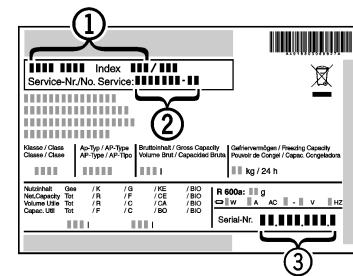

Fig. 11
- ▶ *Fig. 11 (1)*, service no. *Fig. 11 (2)* and serial *Fig. 11 (3)* no.